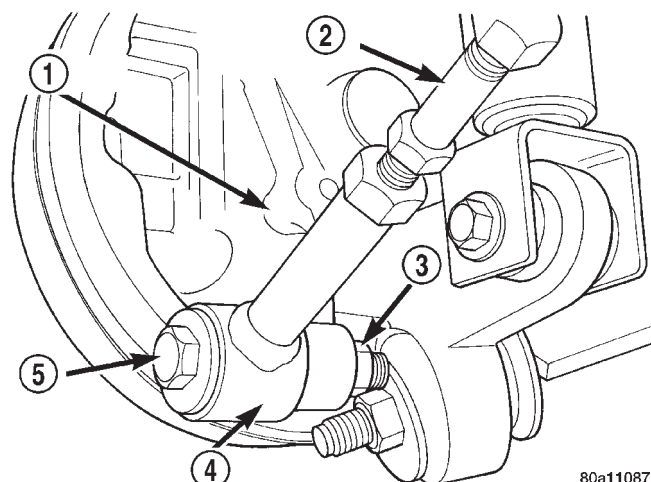
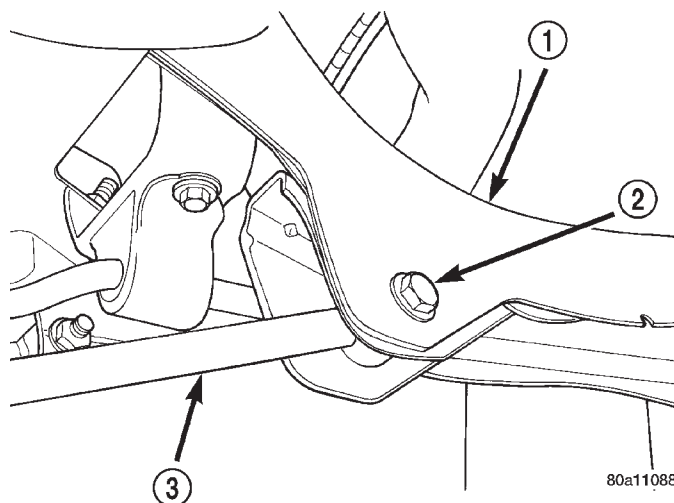

Fig. 33 Rear Lateral Link Attachment To Knuckle
Fig. 34 Lateral Link Attachment To Rear Suspension Crossmember
- (1) Raise vehicle on jackstands or centered on a frame contact type hoist. See Hoisting in the Lubrication and Maintenance section of this manual, for the required lifting procedure to be used for this vehicle.
- (2) Remove the rear wheel and tire assembly from the side of the vehicle requiring lateral link removal.
- (3) Remove the nut, bolt and washer attaching the lateral link to the knuckle (Fig. 33).
- (4) Remove the bolt (Fig. 34) and nut attaching the lateral link to the rear suspension crossmember.
- (5) Remove rear lateral link from vehicle.
- (1) Install the lateral link and the attaching nut and bolt at rear suspension crossmember (Fig. 34). **The rear lateral link is to be installed with the adjusting screw toward rear knuckle not rear suspension crossmember (Fig. 33).**
- (2) Install the lateral link and the attaching nut, bolt and washer at rear knuckle (Fig. 33).
- (3) Torque both lateral link attaching bolts to 108 N·m (80 ft. lbs.).